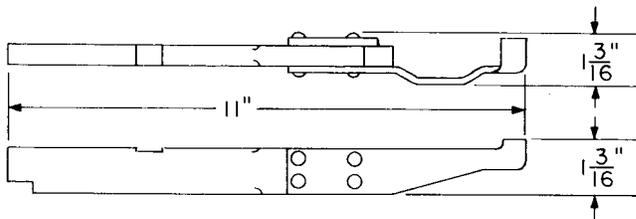

Fig. 1—230 Multiple Bank Carrier Tool
2.01 **230:** The 230 multiple bank carrier tool (Fig. 1) is used in handling panel multiple banks. Two or more of these tools may be coupled together to obtain greater leverage.